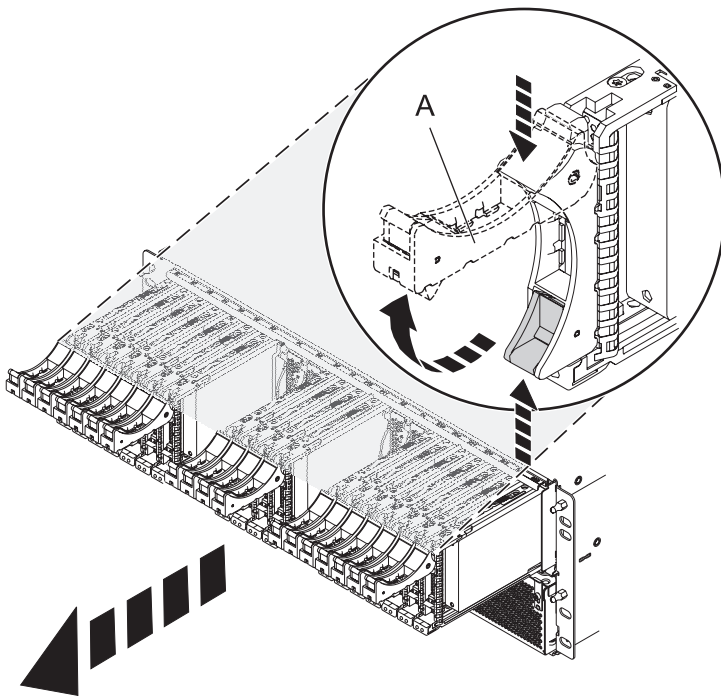

Figure 22. Removing the disk drives from the backplane
6. Remove the disk drives and fillers as shown in Figure 22.
- a. Squeeze the latch of the disk drive and pull the handle (A) toward you to release the drives.